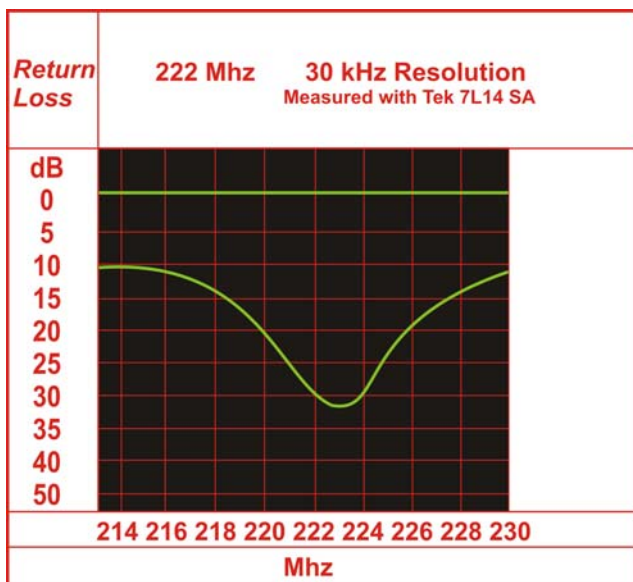

Figure 3
**Figure 3**—Antenna return-loss for two 90° ground-plane folded-monopole corner reflector. The center frequency was 222MHz. Vertical divisions are 10dB each; horizontal divisions are 2 MHz each.
resistance of 112 ohms, which, in parallel, gave a feed-point impedance of 36 ohms. Fig. 3 shows a measured return loss of 32dB, which equates to a very acceptable SWR of 1.052. During tests, the antennas demonstrated a considerable broadband characteristic effect. At the repeater frequencies of 222.44 and 224.04 MHz the return loss was 28 and 27dB, respectively, which calculates to SWRs of 1.083 and 1.094, respectively (Fig3, 4; Table 1). An SWR of 1.5 or less was measured over an 11MHz bandwidth.